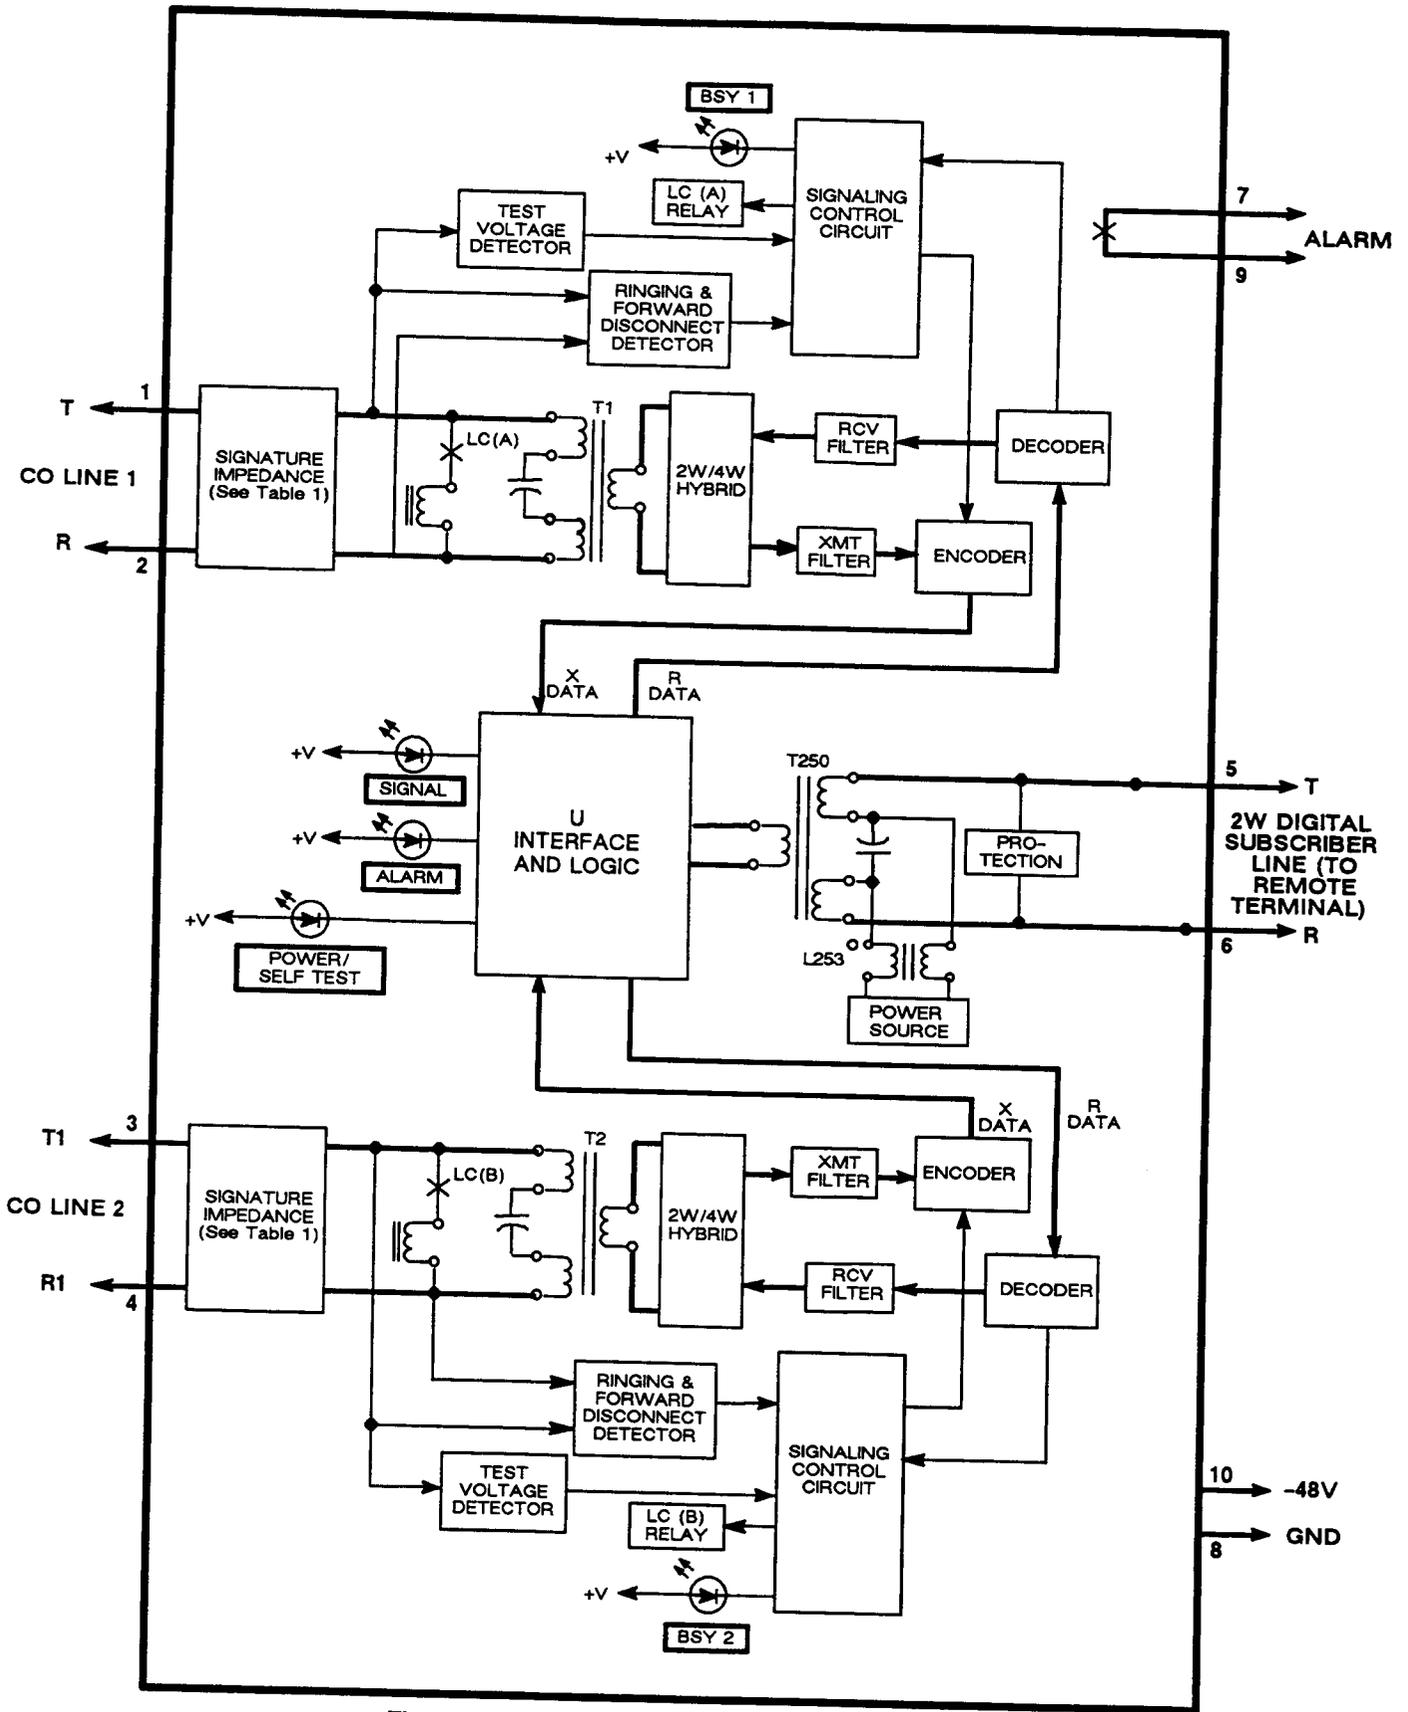

Figure 3. The DDL391 Line Unit Block Diagram
3.01 The Wescom DDL391 Line Unit contains circuitry to interface two POTS CO lines to the Digital Subscriber Line. Refer to Figure 3 for the Block Diagram of the DDL391 Line Unit.